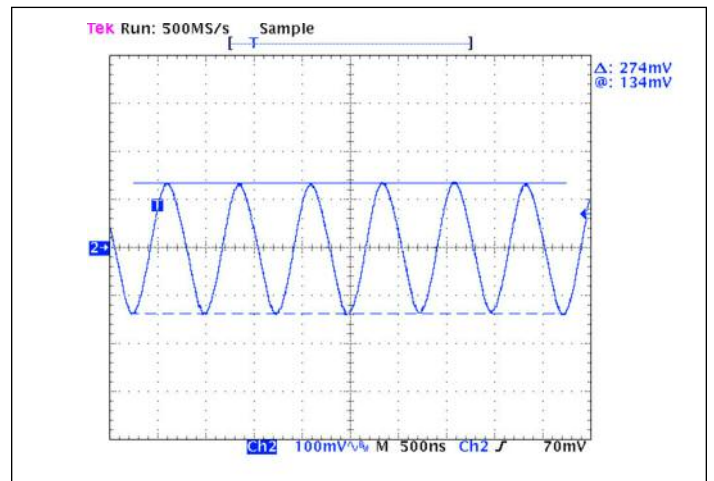

Figure 16 — Output ripple full load 10µF bypass capacitance. Vf = 48 Vdc
- V_f = PRM output voltage, the Factorized Bus (see Figure 16)
Where V_{fd} is the desired factorized bus and V_{fs} is the set factorized bus. A low voltage source can be applied to the SC port to margin the load voltage in proportion to the SC reference voltage. An external capacitor can be added to the SC port as shown in Figure 16 to control the output voltage slew rate for soft start.